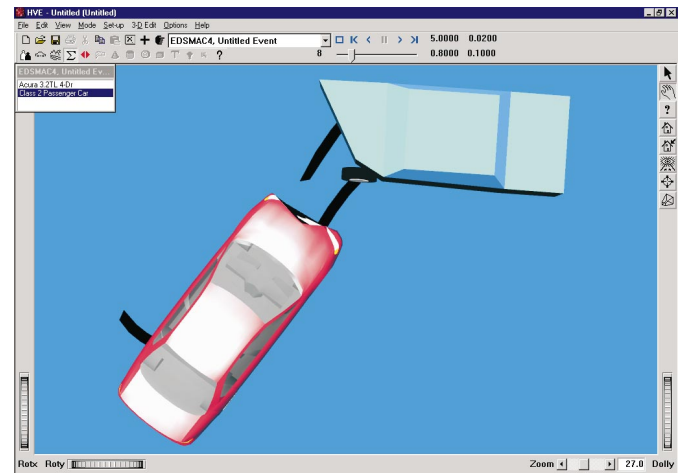

Figure 6 - EDSMAC4 simulation of a two car crash between an Acura 3.2 TL and a Generic Class 2 Passenger Car.
2. **Tessellation** - Tessellation allows the user to add additional detail to the 3-D Geometry File of a vehicle (also referred to as a "mesh"). By selecting this option, each triangle in the mesh is evaluated and any side longer than the user specified value is cut in half until the resulting triangle has no sides longer than the specified value. This capability is very important for collision simulations using DyMESH. It can also be used to display greater detail in the damage profiles of an EDSMAC4 collision simulation involving generic vehicles, as shown in Figures 6 and 7.